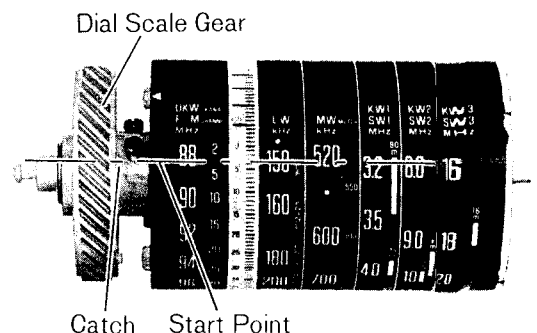

Fig. 9
2. Set the catch of dial scale gear to the start point of dial scale, as shown in fig. 9.